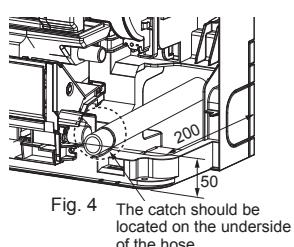

Fig. 4 The catch should be located on the underside of the hose.
- When routing the drain piping, make sure that the drain hose (1) is routed as shown. (Fig. 4)
- 4) Flaring work (Fig. 4, 5). Firmly hold copper pipe in the dimension shown in the table. Select A mm from the table according to the tool you use.